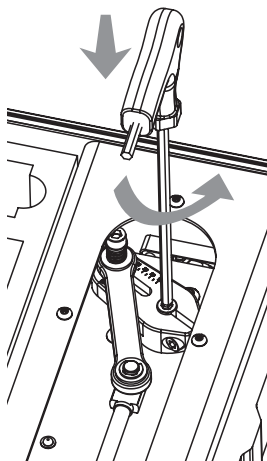
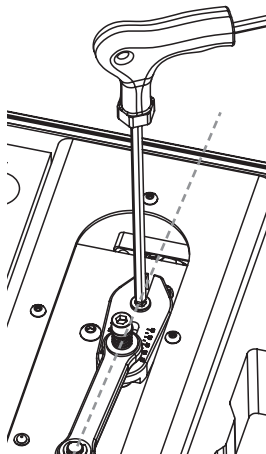

Figure 4.1
Figure 4.2
Insert the long end of the 5mm hex tool through the hole in the window above the crank. The tool should engage with the hexagonal key in the middle of the crank arm (fig. 4.1)
Rotate the hex tool in the appropriate direction so that the crank arm now points forwards in line with the slot in the window (fig. 4.2).
Note: sometimes it is not possible to adjust the crank position because the connecting rod is obscuring the hexagonal drive bolt shown in Figure 4.1 above. In this case you need to use the remote control to turn the motor a half turn or so until the 5mm hex tool will fit. See section 5 for details on the remote functions.
• Stall test - disconnect receiver, set crank to maximum, run the machine at > half speed. Place your finger over the outlet port - the machine should stall and the red stall LED should light up • Leak-down test: disconnect the power supply & receiver. Using the hex tool, drive crank to position shown in fig. 4.1. Reconnect the receiver, drive crank to position shown in fig. 4.2. The sleeve should inflate and hold pressure > 30 seconds	• Stall test - if the machine does not stall there is probably an internal air leak Contact F-Machine • Leak-down test - if the system does not hold pressure there is a small leak in the system. Find and fix the leak if external to the pump unit or contact F-Machine for assistance